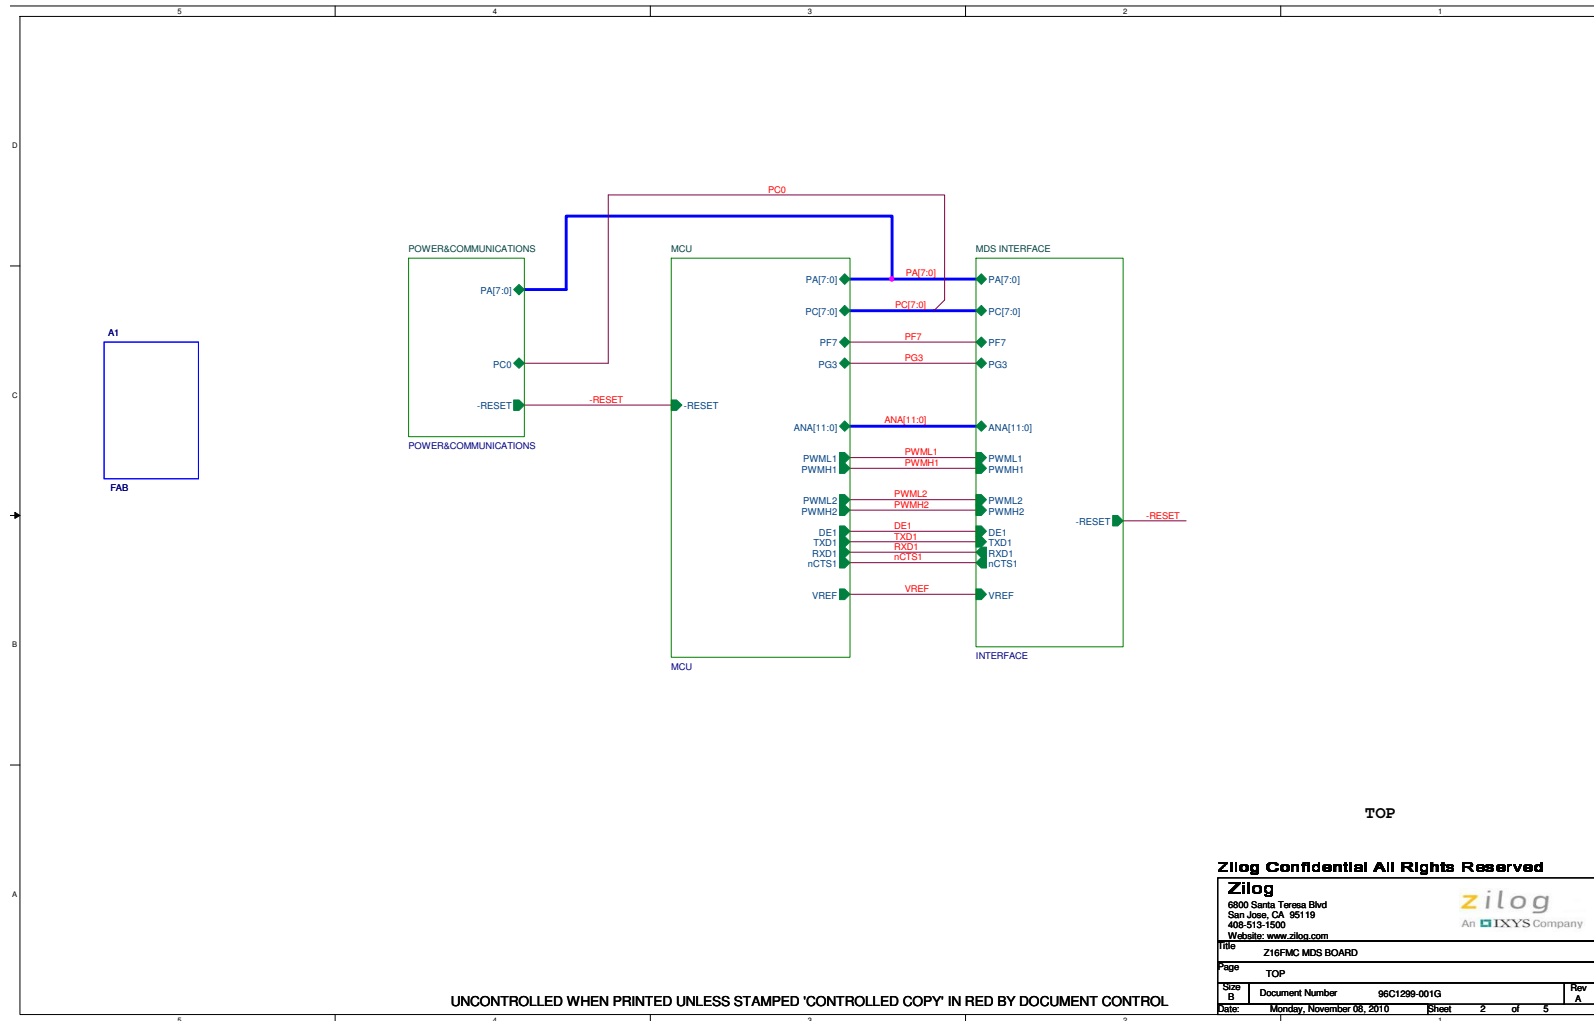

Figure 7. Z16FMC Motor Control MDS Module, #1 of 2
3. Connect the Hardware Setup as shown in Figure 7.
Figures 7 and 8 show basic block and MCU schematics, respectively, for the Z16FMC Motor Control MDS Module.